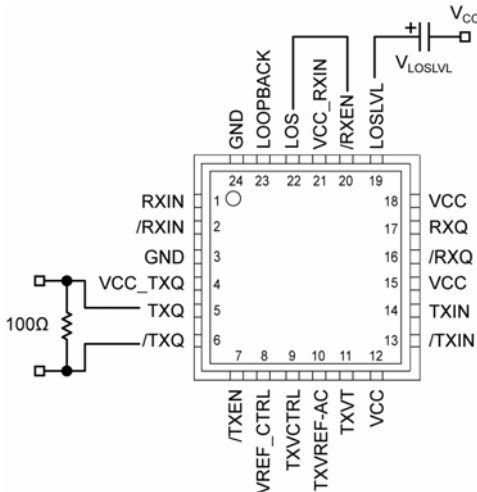

Figure 2a. Voltage Source Implementation
The SY58620L features a chatter-free Loss-of-Signal (LOS) TTL compatible output with an internal 4.75kΩ pull-up resistor. LOS circuitry monitors the input receiver signal and asserts a signal when the input signal falls below the threshold set by the programmable LOS level set pin (LOSLVL). When the amplitude of the receiver input signal falls below the threshold, LOS is asserted HIGH with a response time of ~0.2μs. LOS can be fed into /RXEN to maintain output stability by disabling the output during a Loss-of-Signal condition. Figure 2a and 2b shows the LOS connection to /RXEN. When /RXEN is HIGH, the output signal RXQ is held LOW and /RXQ is held HIGH. Typically, 2dB of LOS hysteresis is adequate to prevent the receiver output from chattering. LOS operation is optimized for data rates ≥622Mbps with an input receiver amplitude of at least 10mV (20mVPP). Due to the long time constant in slower data rates below 622Mbps, the SY58620L LOS function does not guarantee chatter-free operation for low amplitude signals.
LOS detection trip-point by setting up a voltage divider between  $V_{CC}$  and  $V_{REF}$  (an internal voltage source set at  $V_{CC}-1.3V$ ), since there is a  $2.8k\Omega$  internal resistor connected between  $LOSLVL$  and  $V_{REF}$ . The input voltage range of  $LOSLVL$  ranges from  $V_{CC}$  to  $V_{REF}$ . See the “Functional Block Diagram” section and Figures 2a and 2b, to see how  $R_{LOSLVL}$  sets up a voltage divider between  $V_{CC}$  and  $V_{REF}$ . Refer to the “LOS Output DC Electrical Characteristics” table and “Typical Operating Characteristics” section to see how different  $R_{LOSLVL}$  values affect LOS sensitivity.
- Connecting the input  $/RXEN$  to the LOS output as shown in Figures 2a and 2b, maintains receiver output stability under a Loss-of-Signal condition